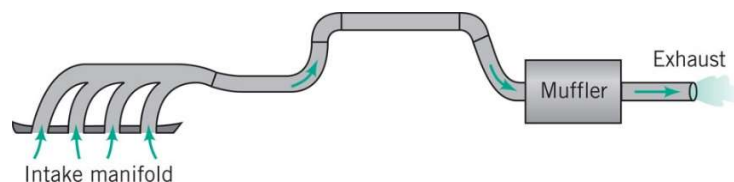

Figure 2. Problem 2.
2. The exhaust from a car's engine flows through a complex pipe system as shown in Fig. 2. Assume that the pressure drop through this system is  $\Delta p_1$  when the engine is idling at 1000 rpm. Estimate the pressure drop (in terms of  $\Delta p_1$ ) with the engine at 3000 rpm when driving on a highway. List all the assumptions that you made to arrive at your answer.